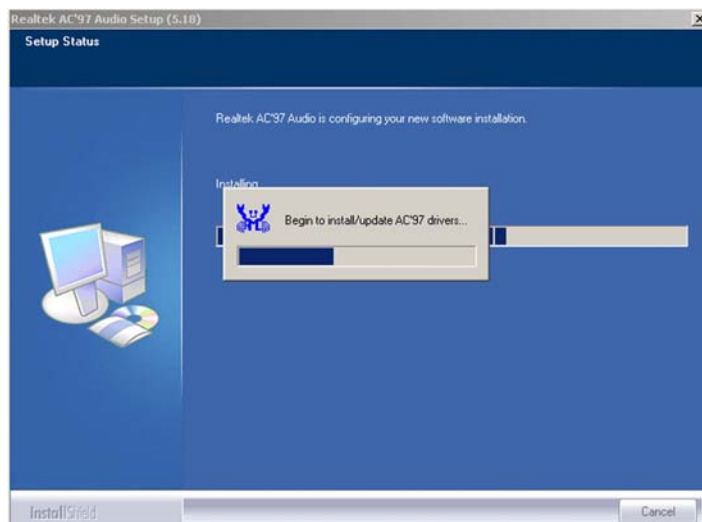

Figure 6-26: AC'97 Audio Driver Installation Begins
Step 8: After clicking the “YES” button in **Figure 6-25**, the installation of the driver begins (**Figure 6-26**).